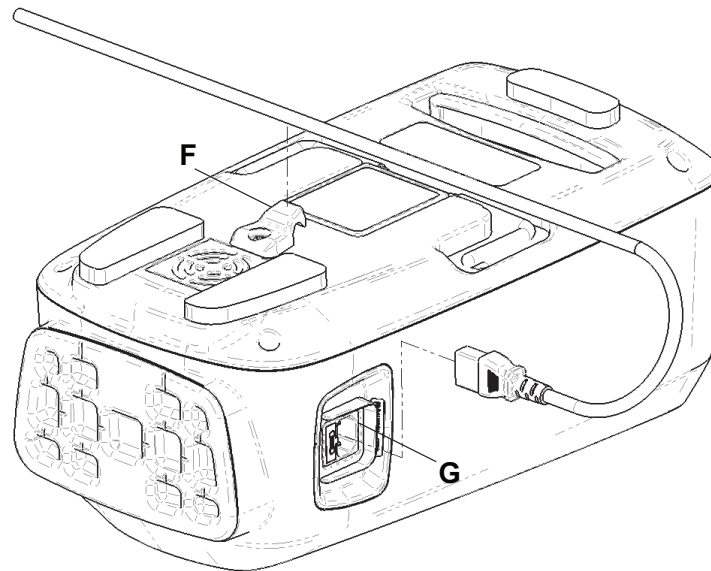

Figure 4 – Insert power cord
5. Remove and save the air filter access door (D).
6. Remove and discard the air filter (E).
7. Install the supplied air filter (E).
9. Insert the power cord under the power cord retention flex grip (F) (Figure 4).
10. Plug the power cord back into the pump (G) (Figure 4).